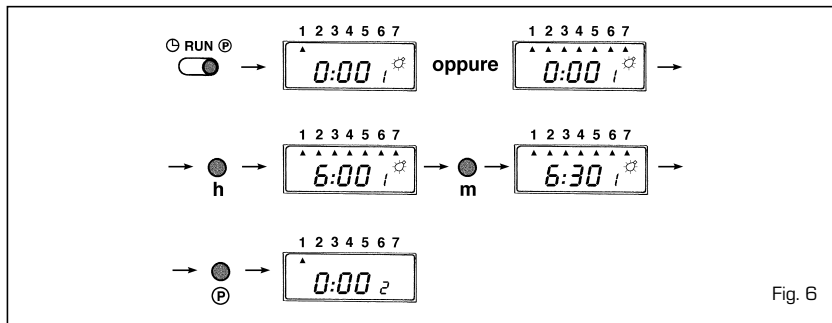

Fig. 6
**- Setting the programme (fig. 6)**